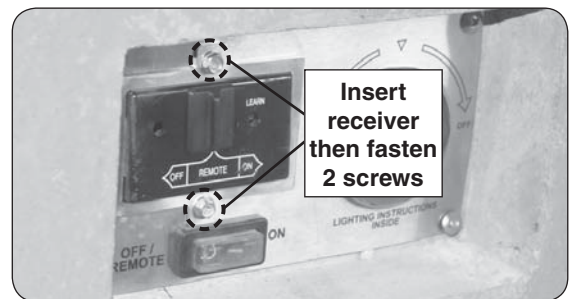

Fig. 25-3 Reinstall remote receiver assembly
3. Reinstall the remote receiver bracket assembly (see Fig. 25-3).